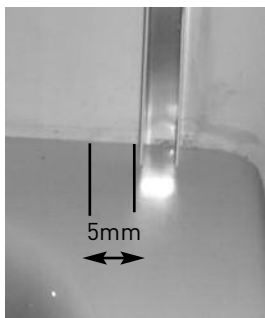
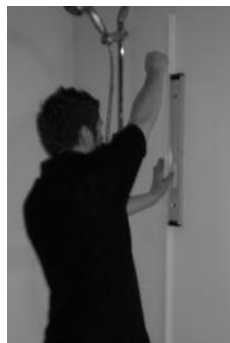

Figure a1
Figure a1i
1. Decide which side of the Bath you want your Curved Bath Screen to be positioned. Fit the inner edge of the Wall Profile (A) 5mm in from the inside edge of the Bath (**Figure a1**). Ensure the Wall Profile is completely vertical using a Spirit Level. Mark the holes with a pencil where the Wall Profile is to be positioned (**Figure a1i**).
6	Is the Wall Profile fitted 5mm approx. from the inside edge of the Bath top (Figure a1/a1i)?
2	Is the Wall Profile fitted 5mm approx. from the inside edge of the Bath top (Figure a1/a1i)?